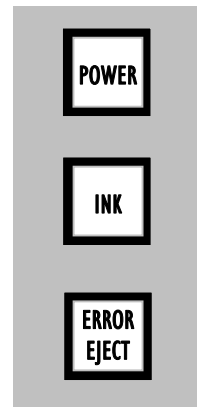

Figure 1: Internal control buttons
1. **Automatic head cleaning:** Find the control buttons inside the front cover (Figure 1, right) Press and hold the INK button for 4 seconds, until the white ink circulation pump starts. This initiates an automatic head cleaning that circulates all ink, discharges the small quantity of ink in the head and waste ink that may be in the capping station.